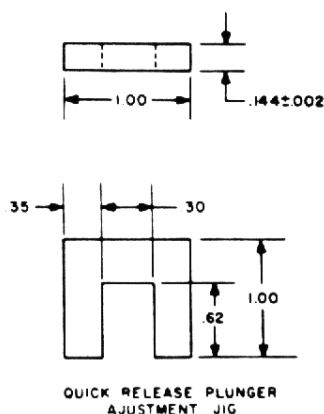

Figure 5-2. Quick Release Plunger Adjustment Jig
- m. Position quick release plunger adjustment jig (figure 5-2) in front of one of the switches over switch actuator button.
- h. Position quick release plunger adjustment jig (figure 5-2) in front of replaced end stop switch over the switch actuator button.